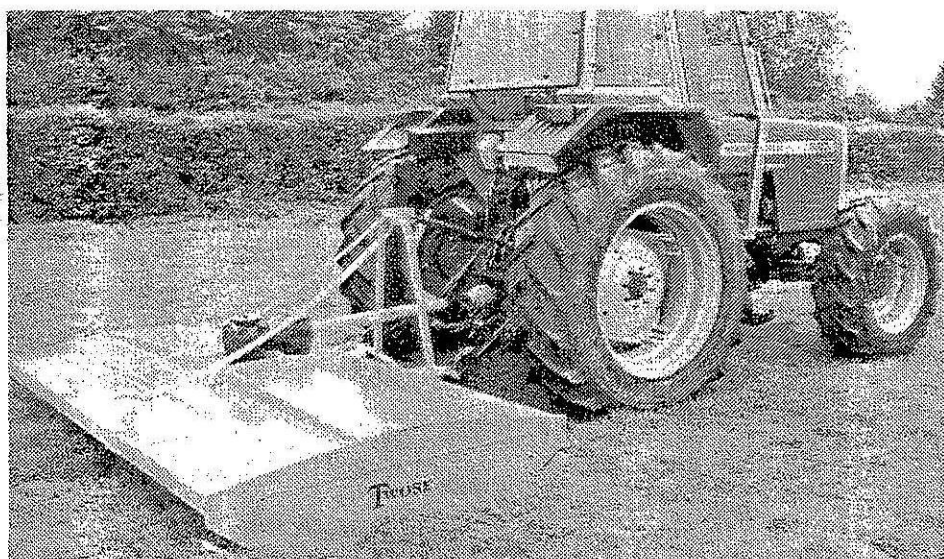

FIG. 5 Support Chains
- (a) Fit Rotary Topper to the tractor's hydraulic three point linkage in the normal way. If possible use right hand and left hand stay bars or check chains. While in operating position, adjust top link until rear support straps are slack as illustrated in Fig. 5.